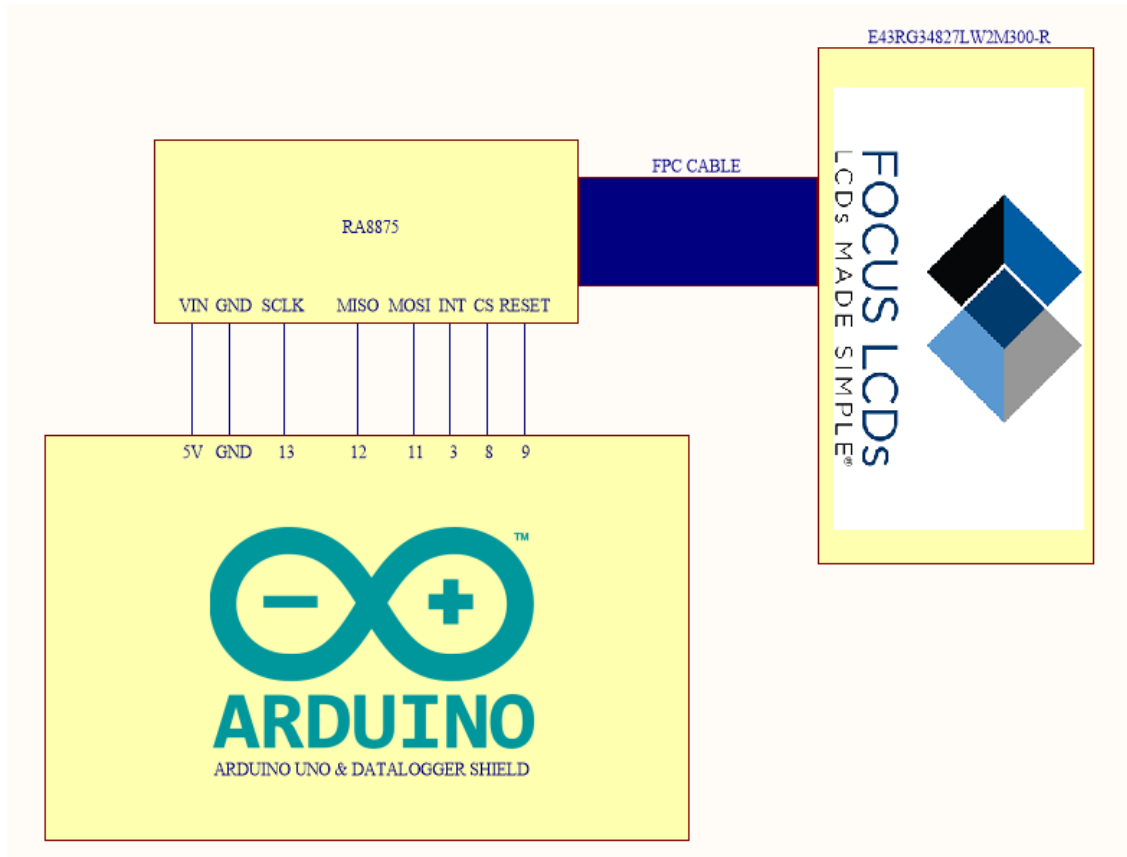
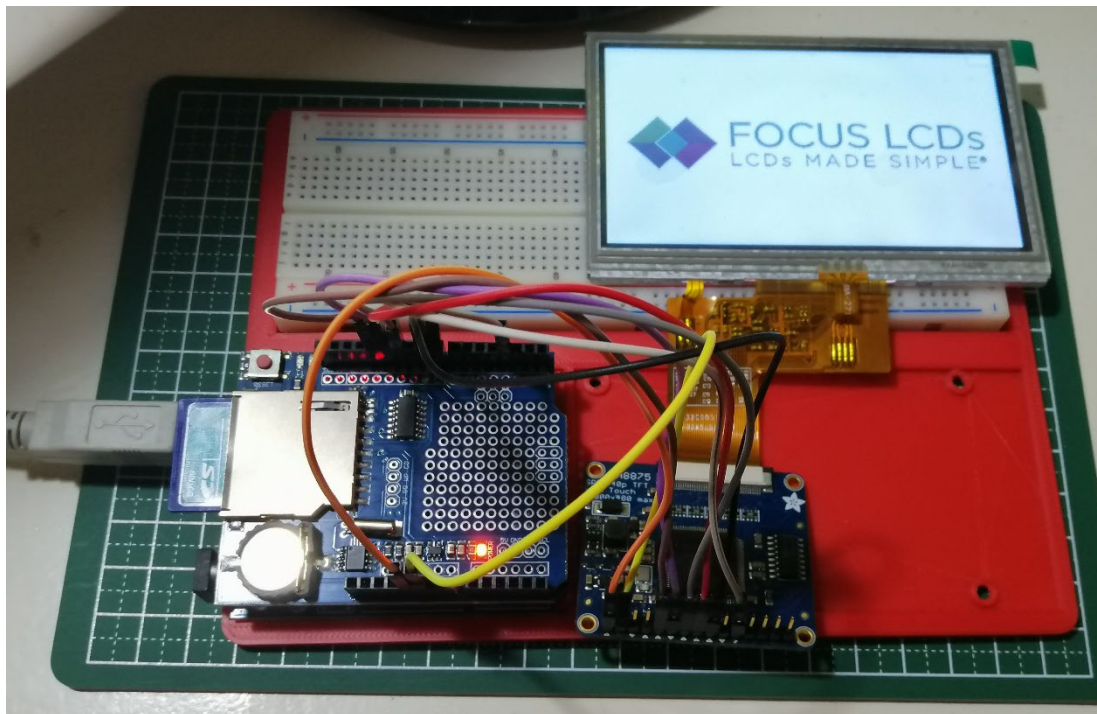

Figure 3: Schematic of Arduino, RA8875 and TFT display module.
Figure 4: Actual setup based on the schematic.
- 4.b Wire up the circuit as shown in the following schematic (Figure 3). The Datalogger or Ethernet Shield is plugged on top of the Arduino UNO. The actual setup is shown in Figure 4.